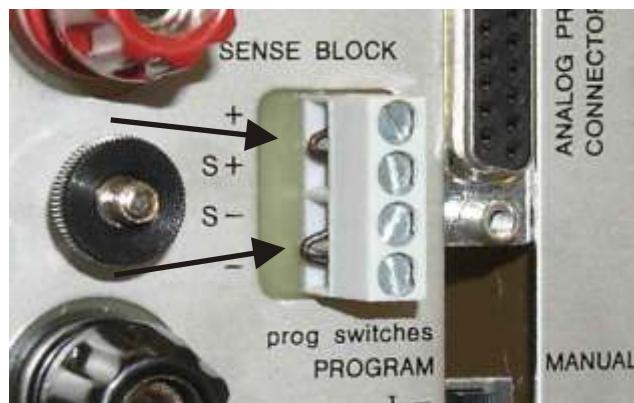

fig. 4 - 20
- Check connections on **SENSE BLOCK** (on rear panel), For normal operation there should be a link between + and S+ and between - and S-. See also fig. 4 - 20. When remote sensing is used, check the wires of the sensing.